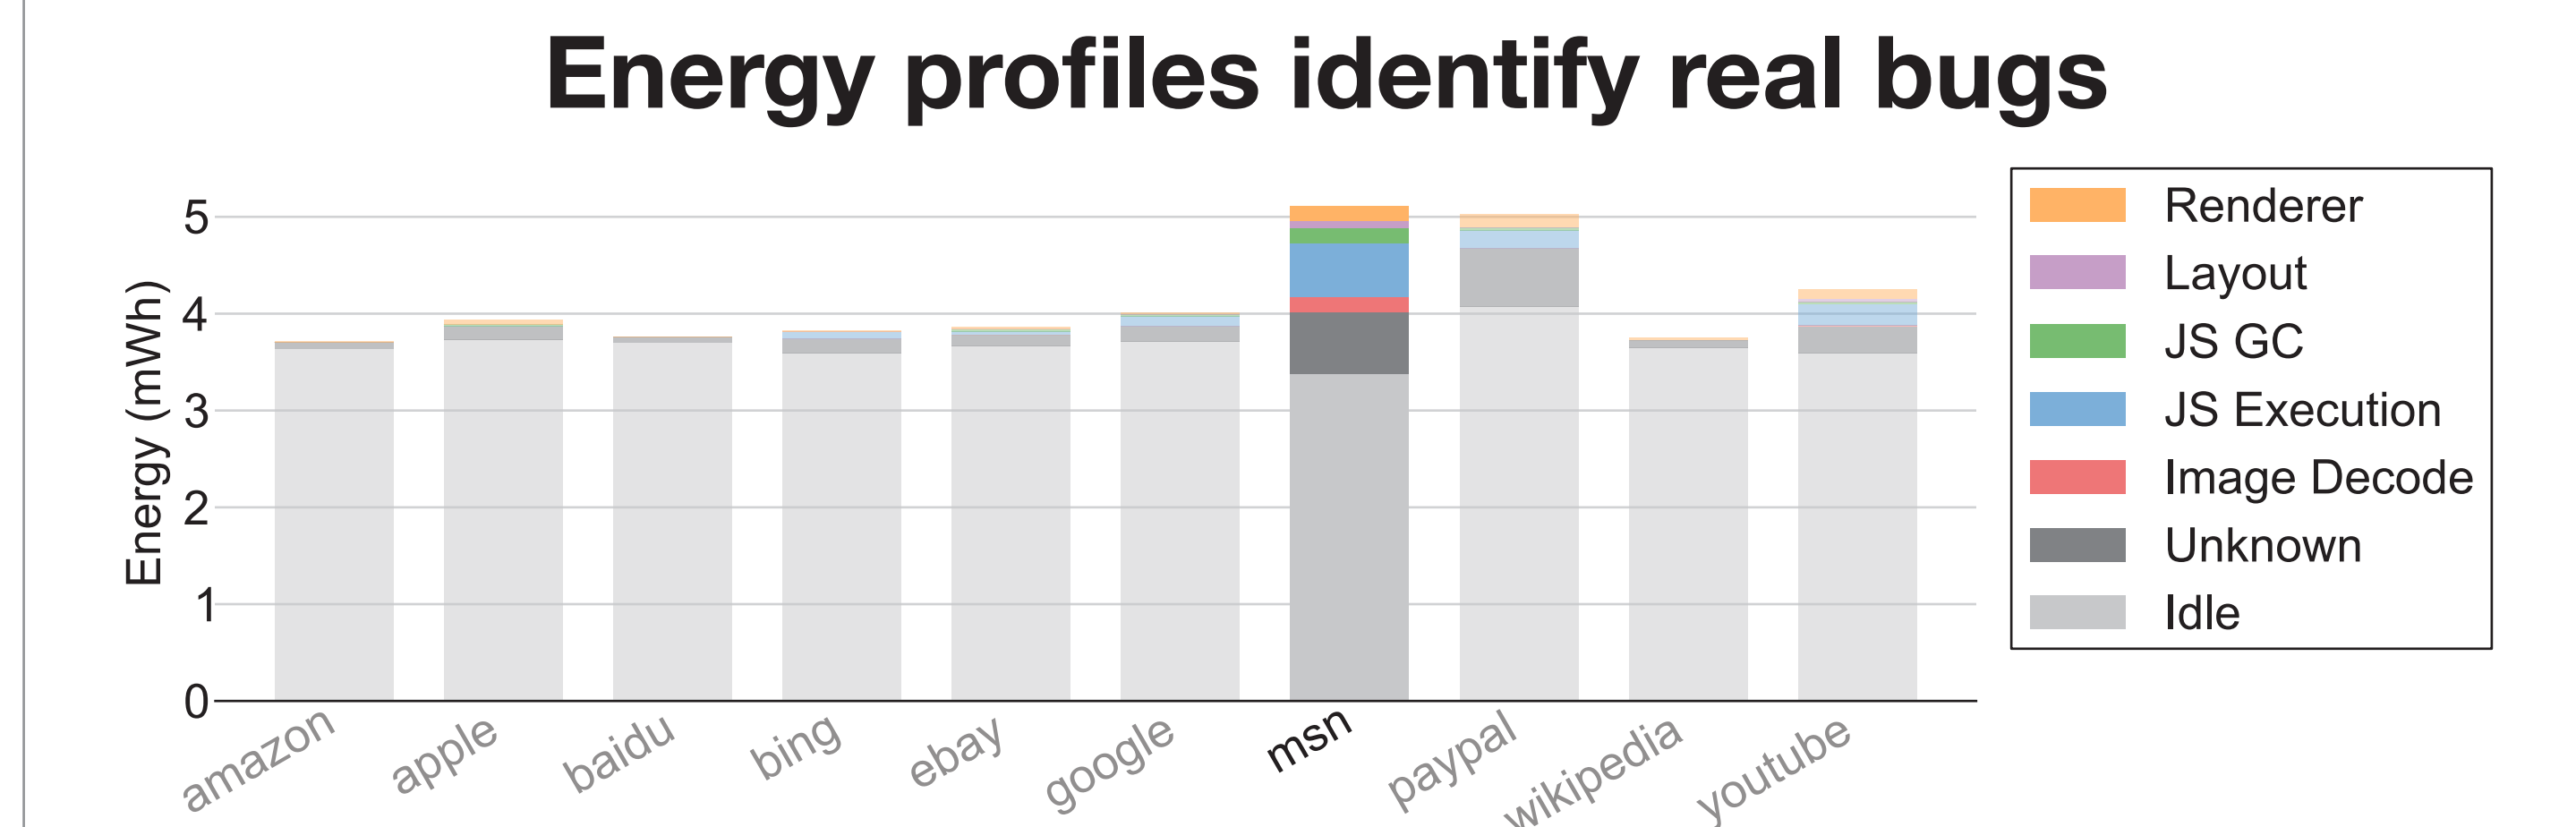

Figure 4 An energy bug in the MSN website, seen and diagnosed by an energy profiler.
- In Figure 4 we see MSN as a clear outlier in energy use